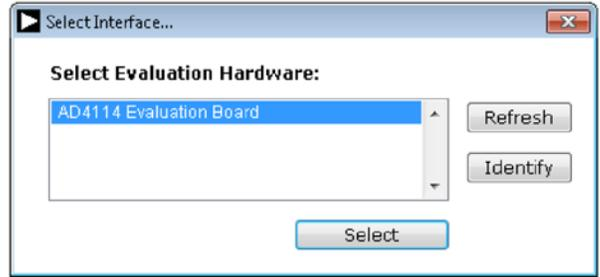
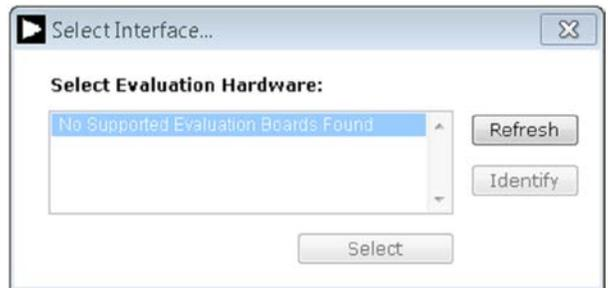

Figure 13. **AD4114** Evaluation Board Selection
Figure 14. Evaluation Board Selection, No Board Connected
1. From the **Start** menu, click **Programs > Analog Devices > AD411x Eval+ > AD411x Eval+.exe**. The dialog box shown in Figure 13 appears. Select **AD4114 Evaluation Board** and the main window of the software shown in Figure 16 appears.
2. If the EVAL-AD4114SDZ is not connected to the USB port via the **SDP** when the software is launched, the software displays the dialog box shown in Figure 14. Connect the EVAL-AD4114SDZ to the USB port of the PC, wait a few seconds, then click **Refresh**, the dialog box shown in Figure 13 then appears.
After selecting **AD4114 Evaluation Board**, shown in Figure 13, the main window of the evaluation software displays, as shown in Figure 16. This tab shows the control buttons and analysis indicators of the **AD411x Eval+** software. The main window of the **AD411x Eval+** software in quick start mode contains four tabs: **Configuration**, **Voltage Waveform**, **Noise Table**, and **Histogram**.